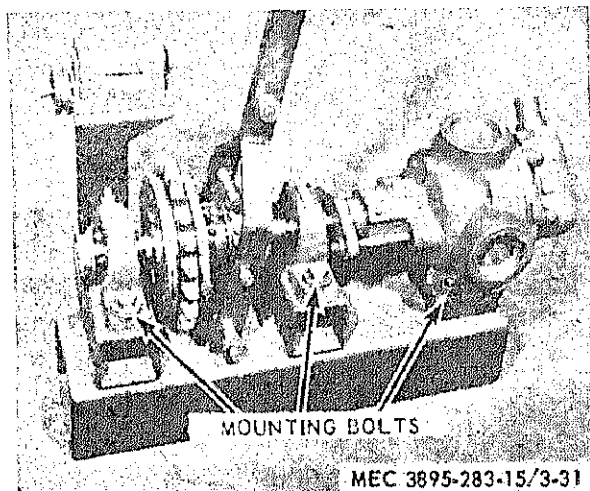

Figure 3-31. Asphalt Pump Removal.
- (1) Disconnect pipe couplings (fig. 3-31).
- (2) Loosen idler on drive chain.
- (3) Remove master link from chain and remove chain.
- (4) Remove drive belt to counter.
- (5) Remove eight mounting screws (4 pump base, 2 each bearing) and lift assembly from mounting base.
(6) Remove outside bearing, clutch and inside bearing from pump shaft.
(1) Remove drive belt to counter (fig. 3-31).
(2) Remove four (4) screws mounting counter to base.
(3) Lift counter from base.